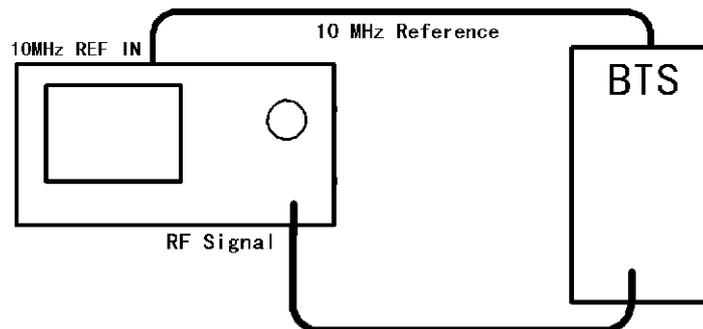

Figure 2-1 Connection for the PDC Measurement
1. Connect the instrument to the base station equipment as shown in Figure 2-1.